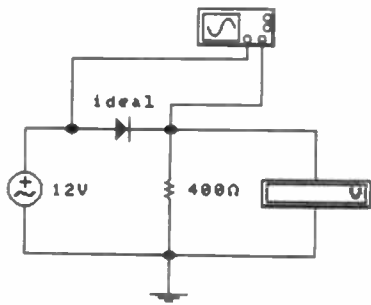

Fig. 3.16 Circuit for Assignment 3.3.
1. Connect the circuit shown in Fig. 3.16. The 400Ω resistor is used to simulate the load that would normally be connected to the power supply.
4. Reconnect the circuit as shown in Fig. 3.16. Connect the voltmeter across the 400Ω resistor in order to measure the output voltage. Record the measured